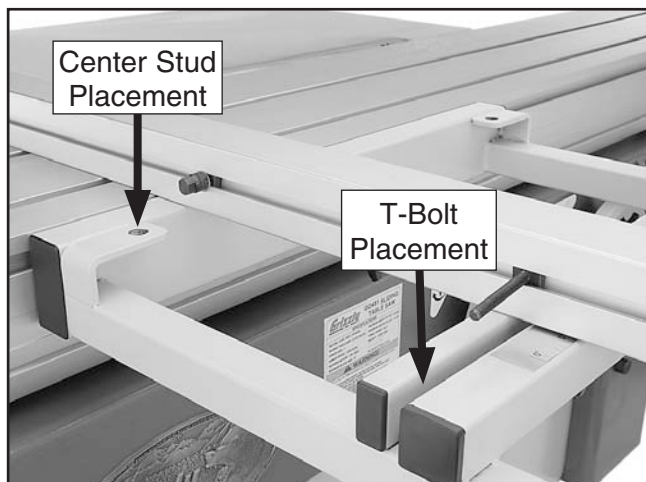

Figure 47. Crosscut fence placement.
41. Position the center stud and the T-bolt over the placement holes shown in **Figure 47**, then tighten the center stud.